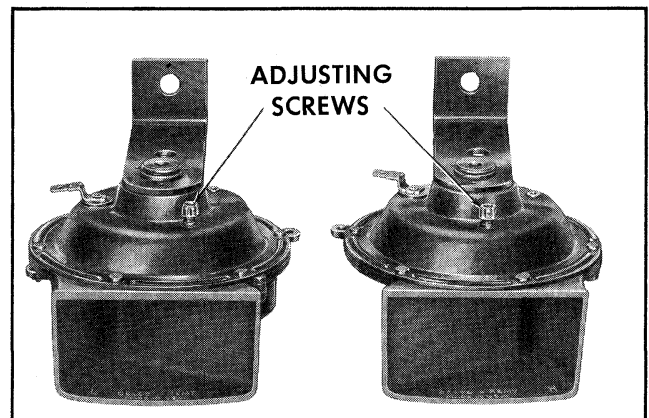
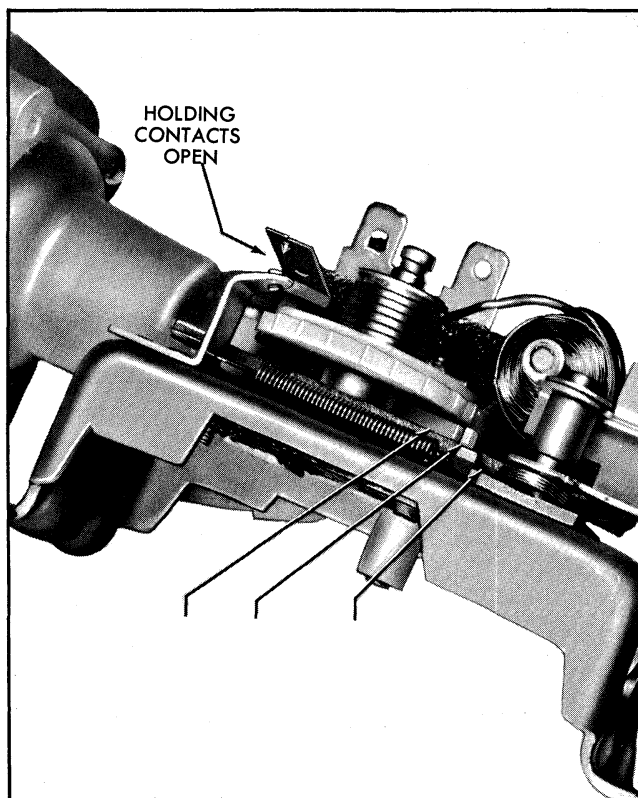
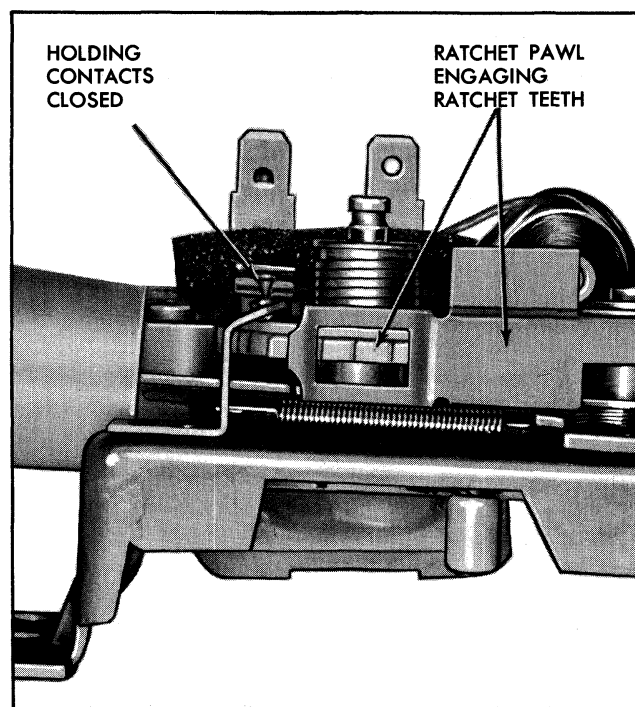
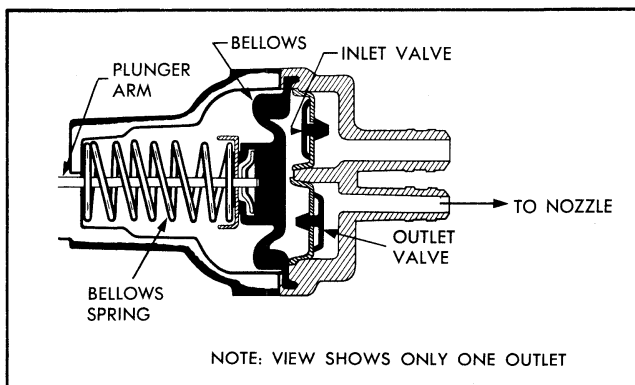

Fig. 11-102 Washer Pump Assembly
Fig. 11-104 Washer Pump Assembly
Fig. 11-106 Pump Contacts and Ratchet Pawl
Fig. 11-107 Pumping Cycle (Exhaust)
The pump is a positive displacement type, employing a small bellows, bellows spring and valve arrangement. The pumping mechanism is actuated by a pin driven by the wiper. The programming (starting and completion of a wash cycle) is accomplished electrically and mechanically by a relay assembly and ratchet wheel arrangement. (See Fig. 11-102).
The pump is in the "lock-out" position when the relay holding contacts are open and a tang on the plunger arm rests against the widest part of an eccentric ramp located on the lower surface of the ratchet wheel (Fig. 11-104). The tang holds the bellows plunger arm in a retracted position (bellows spring compressed) allowing the plunger arm actuator pin on the plate and ratchet pawl assembly (Fig. 11-102) to move freely back and forth in the plunger arm slot and thus no pumping action occurs.
With the washer relay coil energized, the ratchet pawl, which is normally held away from the ratchet wheel by a spring, is pulled toward the coil pole and engages the ratchet wheel teeth. The ratchet pawl and plate assembly, which moves back and forth continuously when the wiper is on, now starts to rotate the ratchet wheel (Fig. 11-106).
With the pumping mechanism released from its "lock-out" position, the bellows spring expands and collapses the bellows forcing water out two outlet valves (Fig. 11-107). The plunger arm, which is attached to the bellows, is pulled forward with the bellows and the back edge of the plunger arm slot moves up tight against the plunger arm actuator pin. (Refer to Fig. 11-102 to identify plunger arm slot and pin.) The actuator pin, which was previously moving back and forth freely in the plunger arm slot, will now pull the plunger arm back and compress the bellows spring each time the pin actuates the plate and ratchet pawl assembly.
As the ratchet wheel rotates the tang on the bellows plunger arm starts to ride up the eccentric ramp on the lower surface of the ratchet wheel. The full "lock-out" position of the pumping mechanism is reached when the tang is up on the widest part of the ramp (Fig. 11-104). The tang reaches the "lock-out" position at the same time the relay coil holding contacts open.
2. If relay and ratchet pawl perform correctly in step 1, manually actuate the plate and ratchet pawl assembly to turn the ratchet wheel one tooth. Observe if relay holding contacts close (Fig. 11-106) and the pump plunger arm is released from its "lock-out" position. (Fig. 11-104 shows plunger arm in "lock-out" position.)
4. If pump performs correctly in step 3, continue to manually actuate the plate and ratchet pawl assembly until the ratchet wheel has been turned through 360° or 21 teeth. After the ratchet wheel has been rotated 21 teeth, the holding contacts should be opened by a "hump" on the wheel and the pump plunger arm should be in the "lock-out" position (Fig. 11-104).